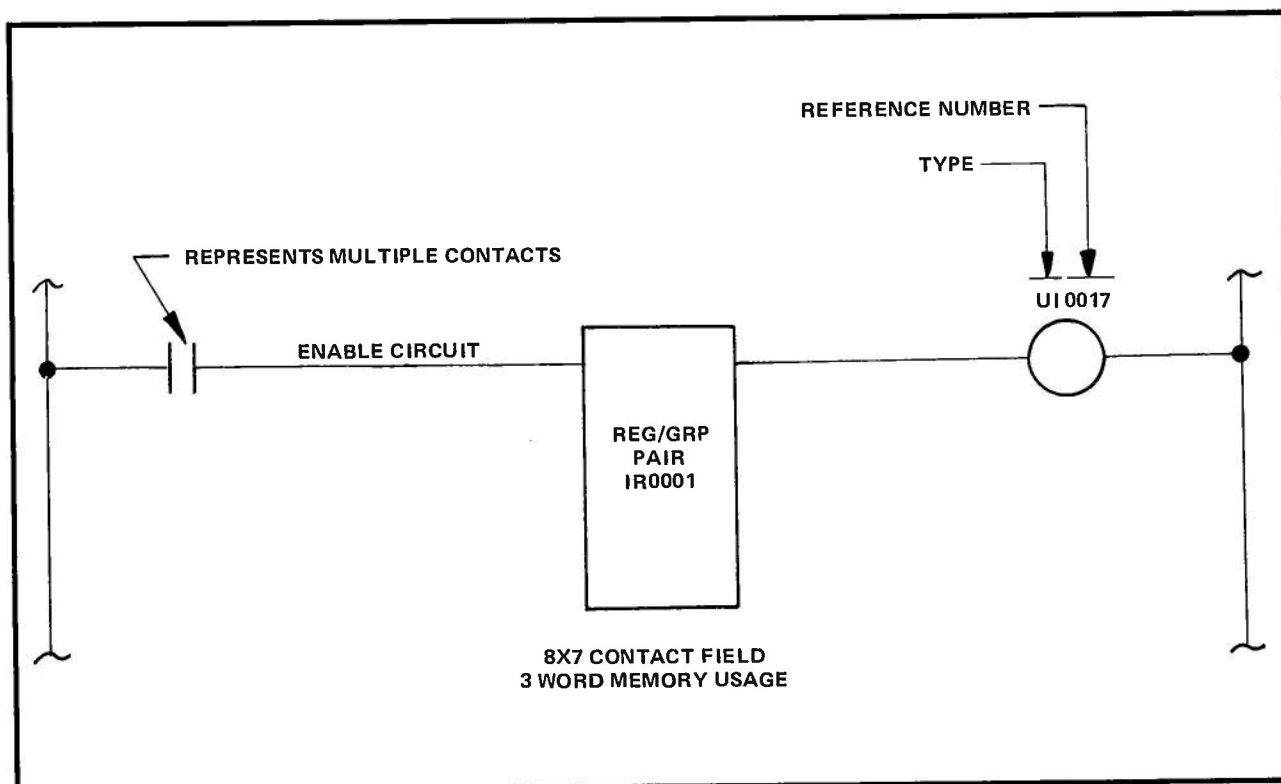

Figure 1. I/O Update Immediate (UI)
The I/O Update Immediate (UI) function updates the status of registers or groups when the UI function is executed in the logic scan, in addition to normal I/O update at the end of the logic scan. Energizing a UI enable input updates the status of the specified input register or group and its corresponding output register or group. De-energizing a UI enable input stops the update routine. UI function symbology is shown in Figure 1.